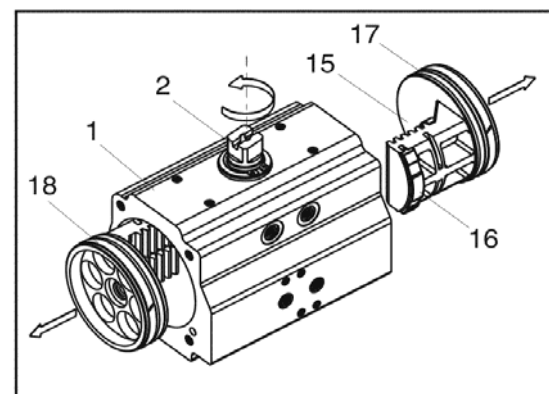

Fig. 6
4) Place cylinder in a vise or fixture to keep secure from moving or twisting. Rotate output shaft (#2) either CW (Clockwise) or CCW (Counter-Clockwise) to remove pistons (#15) from actuator body shown in Fig. 6.